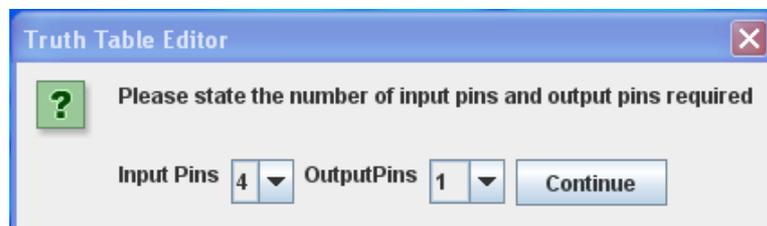

Figure 12: initial input and output pin selection
This will open the initial Truth Table Editor window allowing the user to specify the required number of inputs and outputs using the associated pull down boxes, as shown in figure 12. The maximum number of inputs and outputs is currently limited to 8 and 16 respectively, in this example 4 inputs and 1 output have been selected. Note, any combination of inputs and outputs are allowed. Where required 'not connected' (NC) pins will be automatically inserted to pad out unused pin positions within the package foot print.